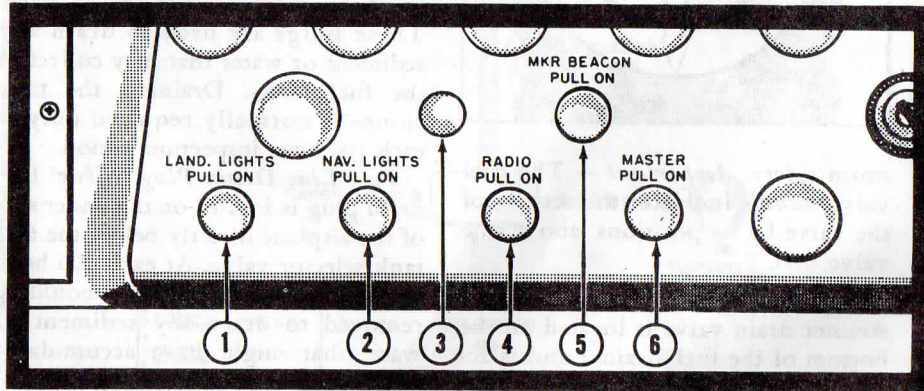

Figure 2. Electrical Switch Panel
- 21. Electrical Switch Panel (See figure 2)
**Master Switch.** The master switch (6, figure 2) is the first knob to the left of the cigarette lighter. Switch positions are "ON" (out position) and "OFF" (in position). When the master switch is turned "ON", a solenoid switch is energized and the electrical power of the battery is admitted into the electrical system. In event of a short or malfunctioning of the airplane electrical system, the master switch may be turned off and the engine will con-
left wing tip, a green light on the right wing tip, and a white light on the trailing edge of the rudder. The navigation light switch (2, figure 2) is mounted on the instrument panel. *To turn the navigation lights on*, pull the navigation light switch out. *To turn the lights off*, push the switch in.
**Landing Light.** (Optional Equipment). The landing light consists of two lamps mounted side-by-side in the leading edge of the left wing. One of the lamps is adjusted to give proper illumination of the runway during landing and take-off while the other lamp is set to provide illumination of the ground for taxiing purposes. The landing light switch (1, figure 2) is mounted on the instrument panel. *To turn the taxi light on*, pull the switch out to the first stop. *To turn both the landing light and the taxi light on*, pull the switch out to the second stop. *To turn lights off*, push the switch all the way in.